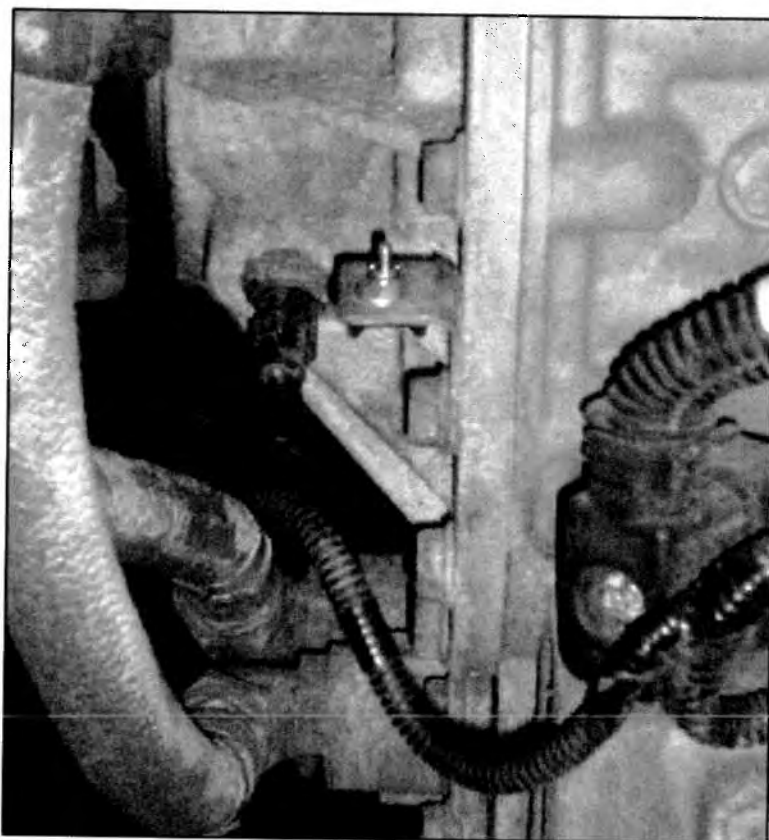

Figure 6.
6. Orient and mount the tie base, p/n 07-08-4526, using hardware p/n's 19-1-694, 19-3-111, 19-2-73 and 19-2-19 at the location shown in Figure 6.